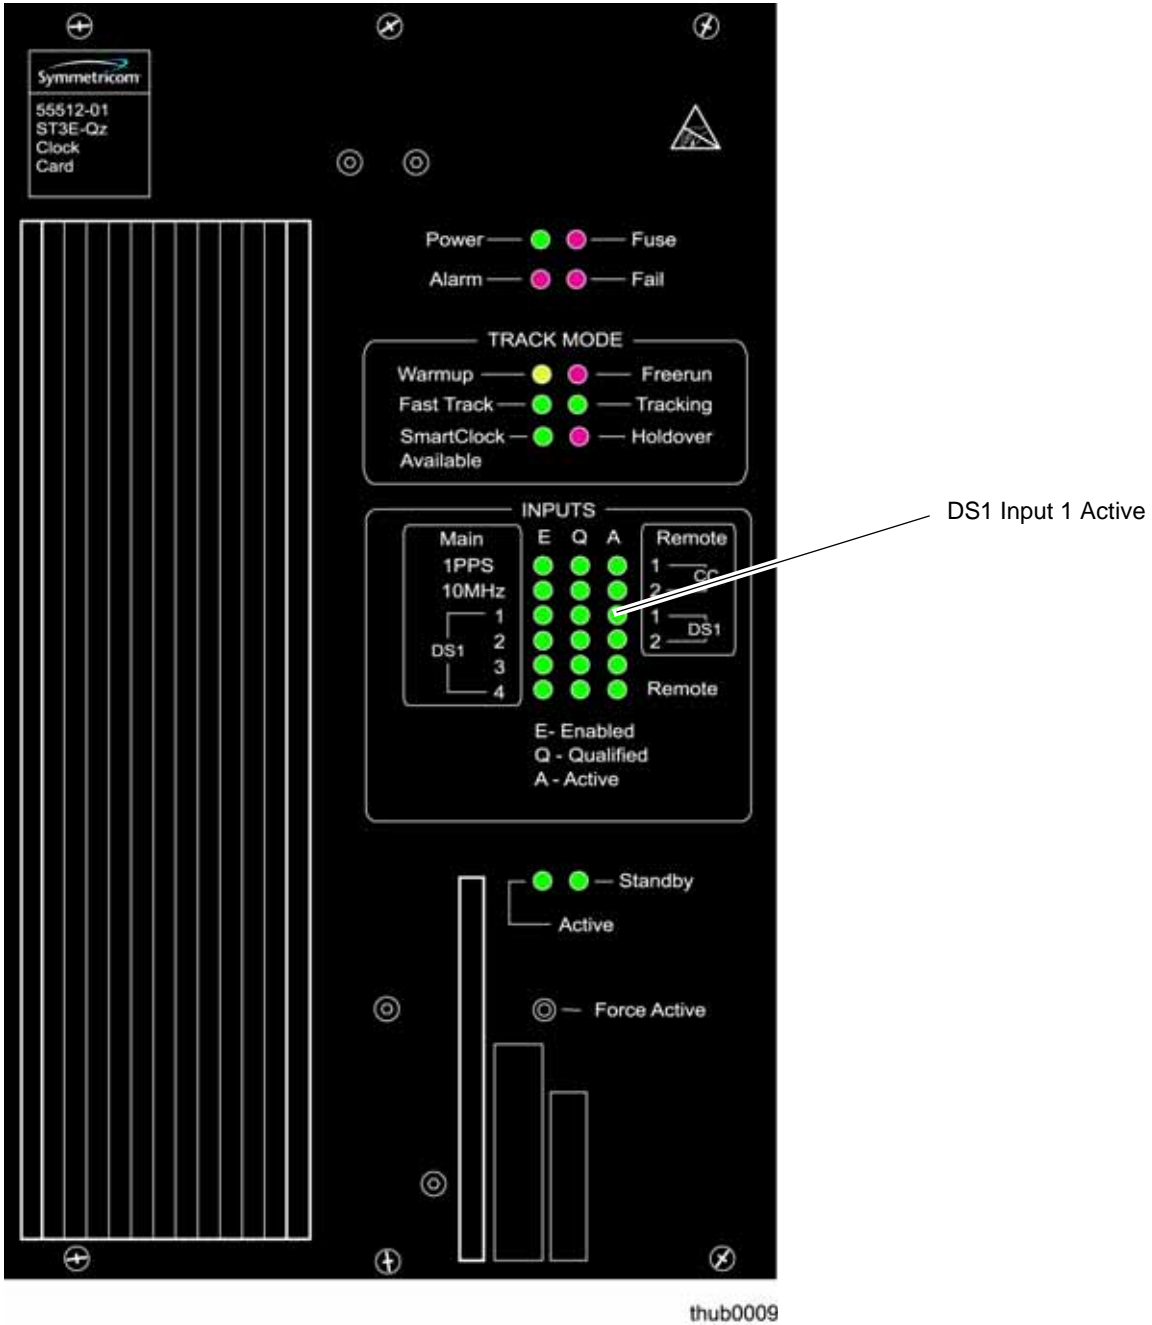

Figure 5-3. Active DS1 Input Signal Indication
1. Disconnect the active reference input signal. This is indicated by the lit "INPUTS DS1 A" LED (for example, Figure 5-3 identifies the DS1 Input 1 Active LED).